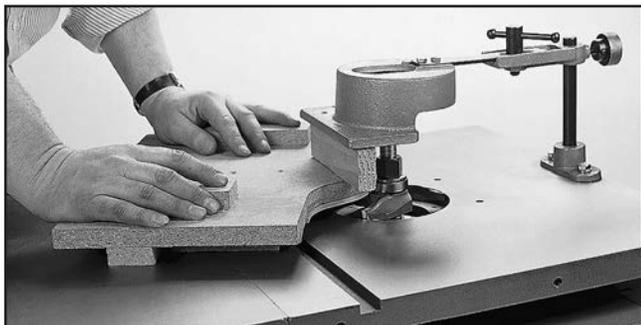

Figure 41. Example of using guard when doing freehand work. (Portion of guard removed for clarity.)
7. Use some type of hold-down fixture and guard when doing freehand work (see **Figure 41**).
Sometimes the starting pin will not be in the most advantageous position. If so, firmly clamp a board in the desired position to act as a starting pin (see **Figure 42**). Some type of pivot point **must be** used. Notice in **Figures 41 & 42** the operator is not exposed to the cutting edge of the cutter. Cutters are removing material from the bottom of the workpiece.